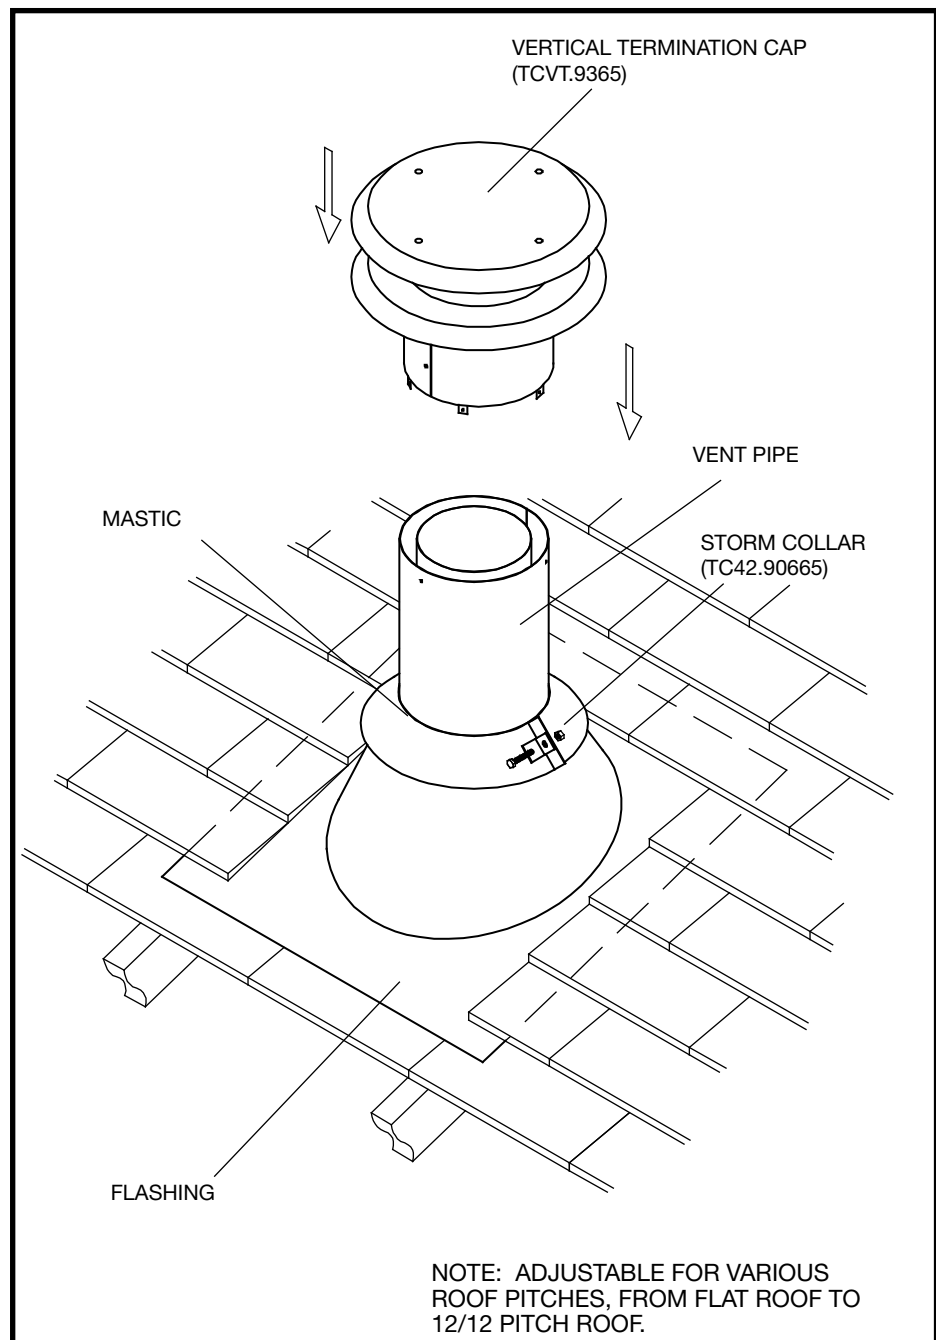

Figure 31: Roof vent terminal.
1. Place the roof flashing over the vent pipe, secure and seal it to the roof using the methods and materials appropriate for the type of roof on the building. Shingle roof example shown (Figure 31).
2. Place the storm collar down over the vent pipe until it is level. Tighten storm collar for a snug fit. Apply a thick horizontal ring of mastic around the pipe at top of the storm collar (Figure 31).
3. Lower the roof vent terminal cap over the vent pipe and secure in place with screws provided (Figure 31). Seal screw heads and joints with caulking to prevent any moisture entering the venting system.